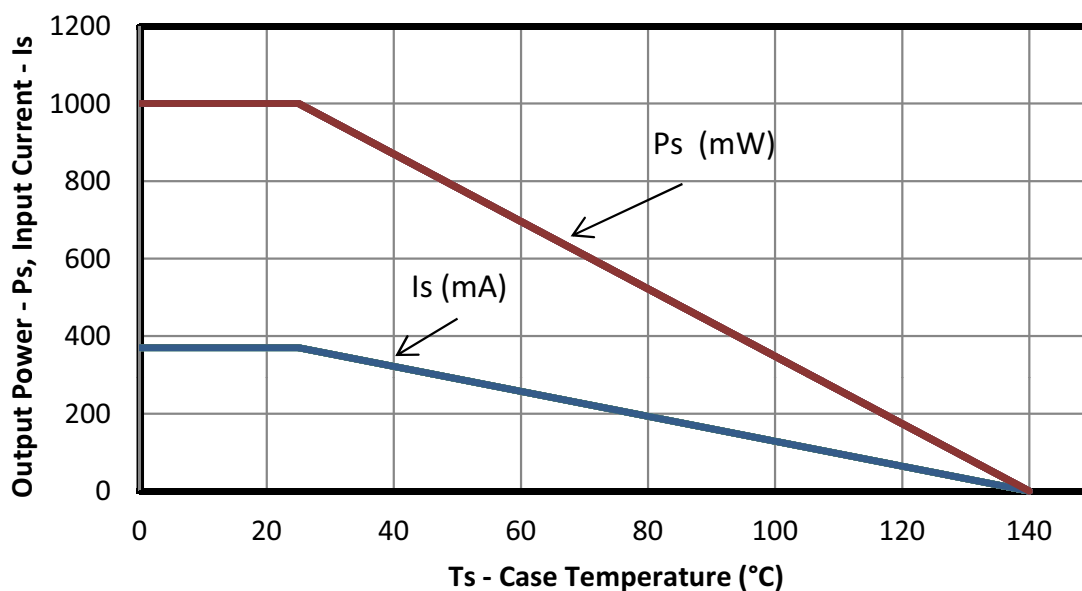

Figure 3. (SOIC-8) Thermal Derating Curve, Dependence of Safety Limiting Values with Case Temperature per DIN EN 60747-5-2 and VDE0884 part 10
**Note:** Maximum value allowed in the event of a failure; also see the thermal derating curve in Figures 3, 4, 5, and 6.